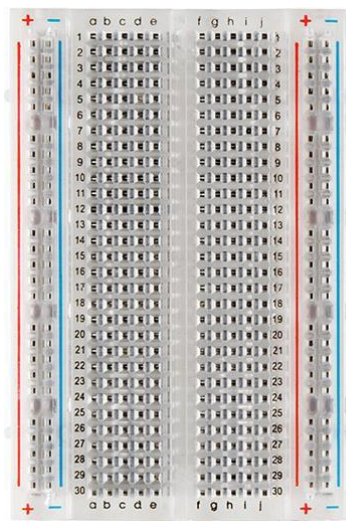

Figure 2.5 – Potentiometer total resistance identification
The total resistance could be written with the actual resistance value or a three digits code. For example, Figure 2.5 shows a total resistance value with a four digits code **P 502**. In this case, **P** stands for Potentiometer, **5** is the first digit of the total resistance value, **0** is the second digit of the total resistance value, and **2** is the multiplier. This means that the total resistance value of the potentiometer in Figure 2.5 is **5000 Ω** or **5 k Ω** .
b. Remove the potentiometers from your kit. Find the value code on **each** potentiometer (check Figure 2.5) and record it on a scratch paper. Use the value code to generate the maximum